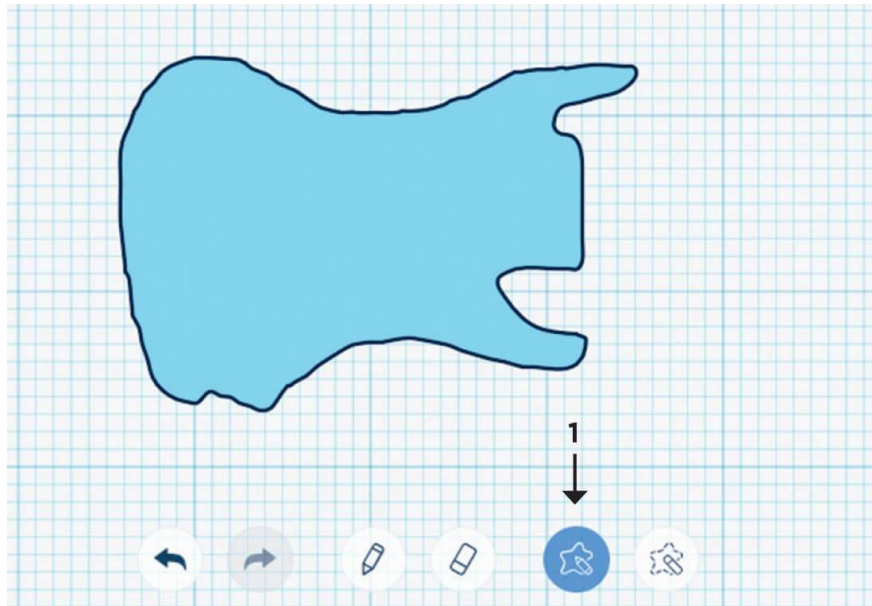

FIG. 1: Use the **Scribble** tool to design the guitar body.
1. The guitar body is a nonbasic shape and is hard to model using a composite of basic shapes. We will use the **Scribble** tool from the **Basic Shapes** toolbox to design the guitar body. Fig. 1 shows how to use the **Scribble** tool to design a rough 3D solid guitar body. Arrow 1 in the image identifies the tool to use.